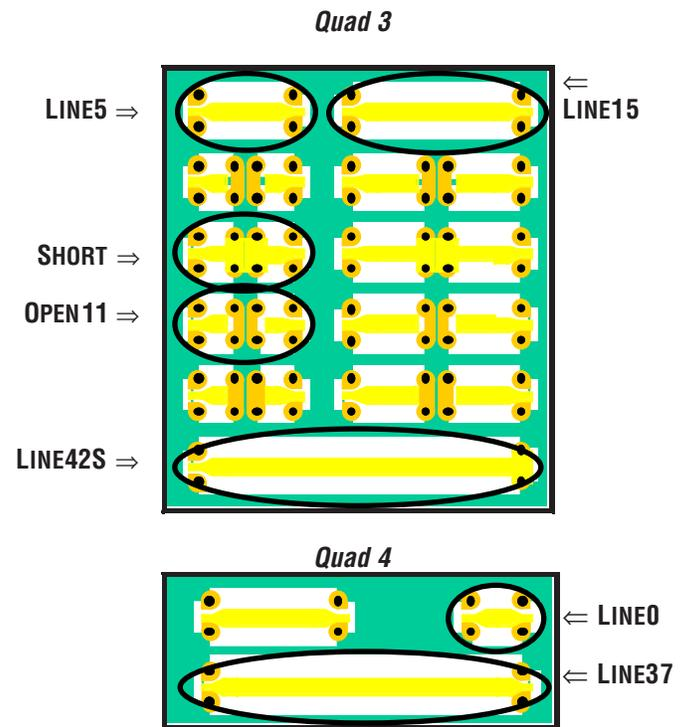
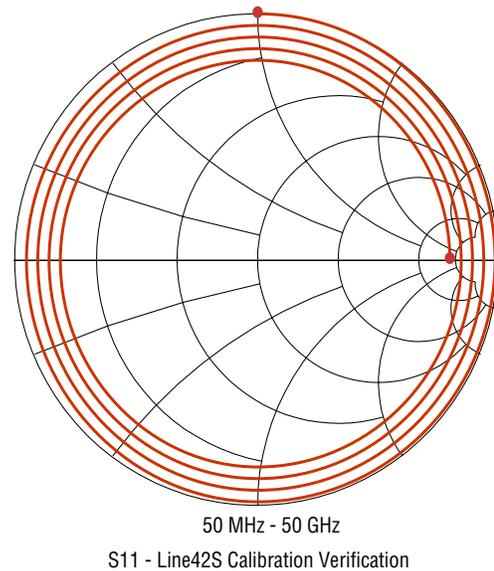

Figure 4 - TRL Calibration Structures on the ProbePoint™ CM10 Calibration Structures Substrate
Figure 5. - Calibration Verification
2. Sequentially probe the standards standard identified in Figure 4, stepping through the cal process. It is important to place the probes at the same location with respect to the vias, when probing each calibration structure.
3. Verify the calibration. A one port verification can easily be performed by placing the probes, one at a time, on Line42S (see Figure 4). The response should be a spiral on a Smith chart, similar to Figure 5.